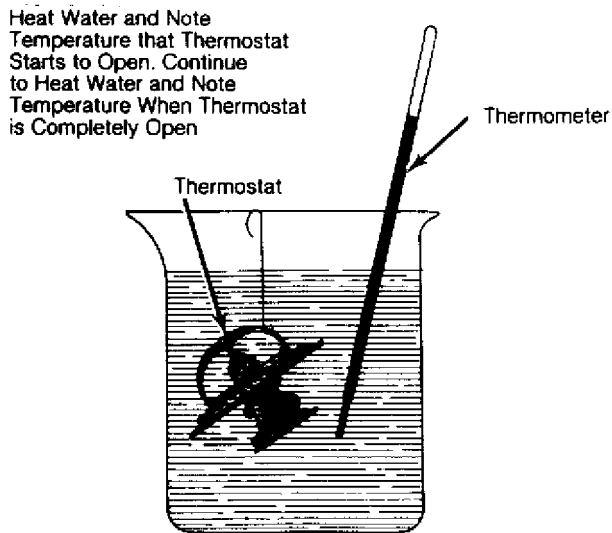

Fig. 1: Testing Thermostat in Anti-Freezer/Water Solution
1) Visually inspect thermostat for corrosion and proper sealing of valve and seat. If satisfactory, suspend thermostat and a thermometer in a container with a 50/50 mixture of anti-freeze and water. See Fig. 1.